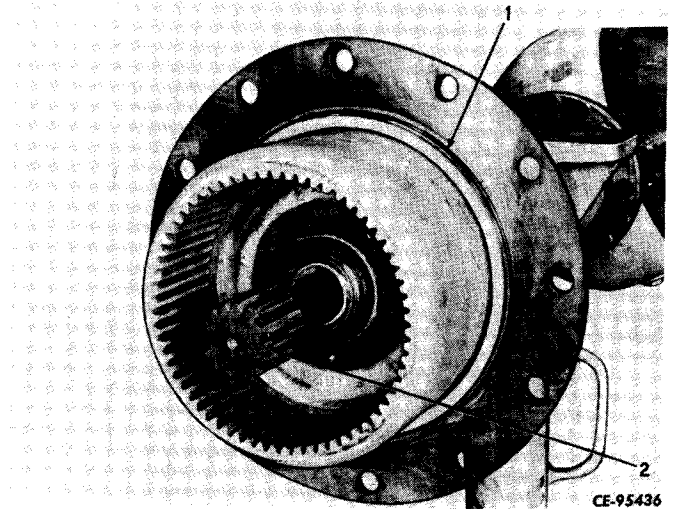

Figure 6-5
Remove seal ring (1, Fig. 6-5) from lip of hub and bearing assembly. Remove axle shaft (2) from axle housing.